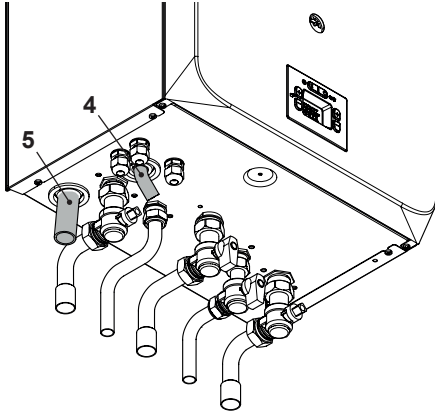

Fig. 6.4
- Connect the pipe 4 (Fig. 6.4) from the pressure relief valve to the safety discharge pipework.
- Fit the condensate drain 5 (Fig. 6.4) in to the drainage pipework.